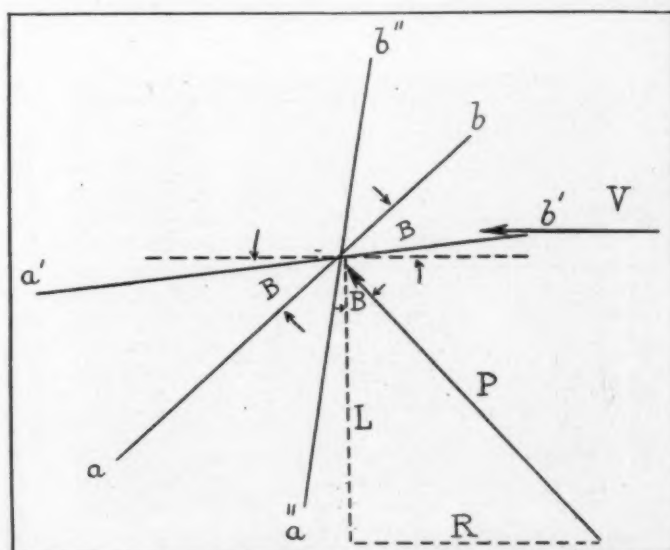

Fig. 2—Diagram of the forces showing how to deal with them
If the flat surface and the air mutually impinge in a direction other than one at right angles with the surface the pressure is always less than that given by Equation I. Thus, in Fig. 2 let ab be an edge view of the surface and let V represent the resultant relative velocity. If the plane is standing still, the air is assumed to be blowing as indicated by the arrow. If the air is still, the plane is supposedly moving in the direction opposite to that so indicated. In either case a pressure is exerted against the plane which is due to and determined by this relative velocity. Such
pressure always acts in a direction perpendicular to the surface of the plane and may be represented as P , Fig. 2. It is less than that which would be exerted were the plane moving while vertically situated at the same velocity in the direction directly opposite to that of the arrow P .
The relation of pressure P on such an enclosed plane to the pressure p of Equation (I) is determined by the angle of inclination made by the plane with its direction of relative movement. In Fig. 2 let this angle be B , according to the experiments of Langley and Duchemin,